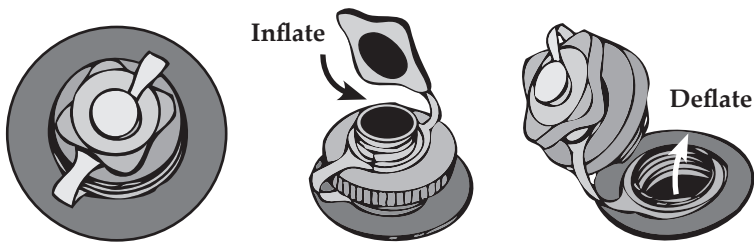

Figure 2. Inflate/Deflate Boston Valve
3. Locate chamber 3 “floor.” Make sure valve body is screwed in tightly. Remove small cap (*See Figure 2*) and use appropriate pump nozzle. Inflate chambers until firm (1.0 psi **ONLY**). **Do not over inflate!**
3. Unscrew valve body to chamber 3 (See Figure 2).